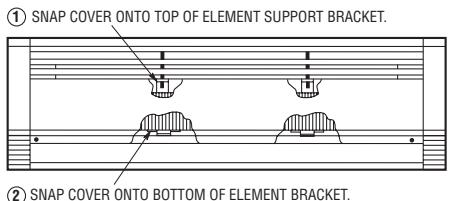

Figure 7. Cover Attachment
12. Replace the front cover by fitting the top lip of the cover onto the tabs on each junction box and top edge of the element support bracket(s). Rotate the cover downward, pushing the bottom corners inward. Install two screws (removed in Step 4) through the cover into the junction boxes. See that the bottom of the cover is engaged onto the bottom of each element support bracket. See Figure 7.
3. After cleaning and servicing, replace front cover and screws removed making sure cover is properly secured into each element support bracket at top and bottom – see Figure 7.